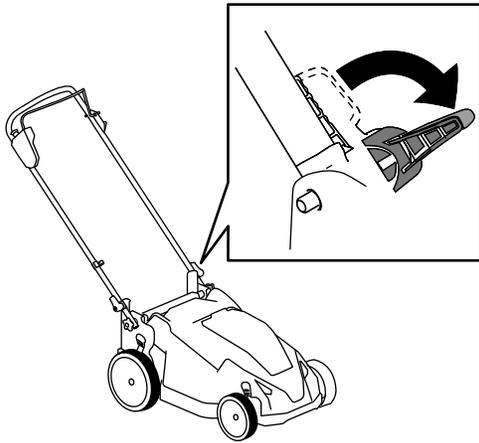

Figure 13
2. Disengage the handle locks until you can move the upper handle freely (Figure 13).
3. Disengage the handle locks (Figure 13).